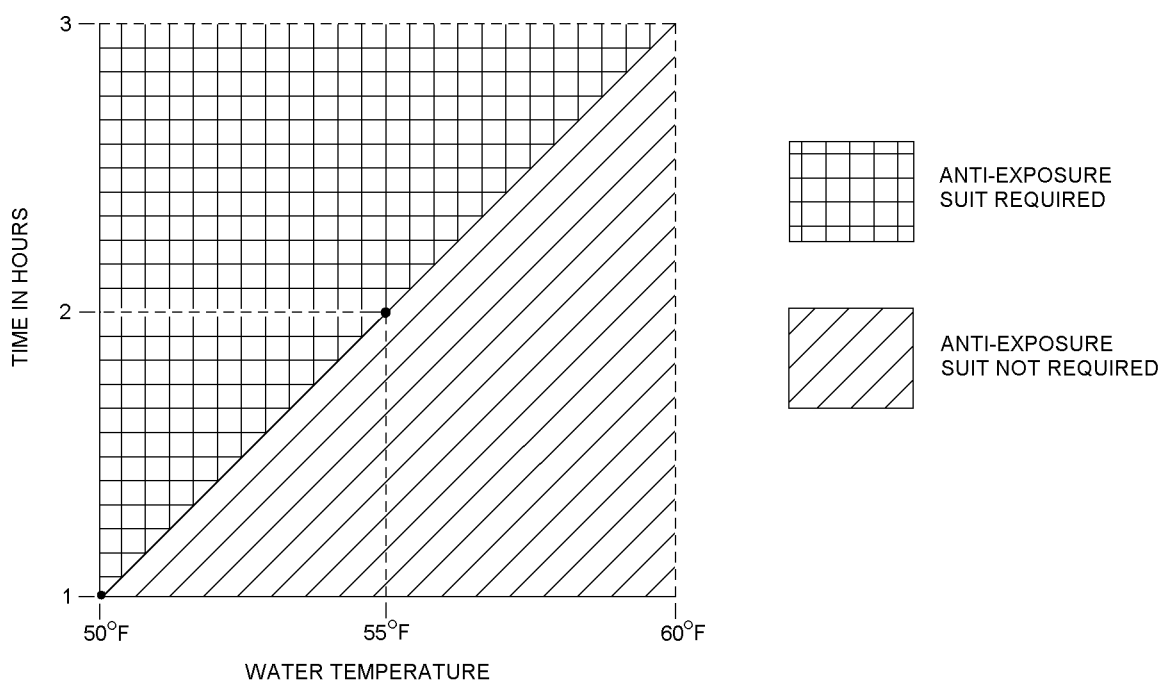

Figure 5-1. Anti-Exposure Suit Requirements
3. Using figure 5-1 determine whether anti-exposure suits are required.